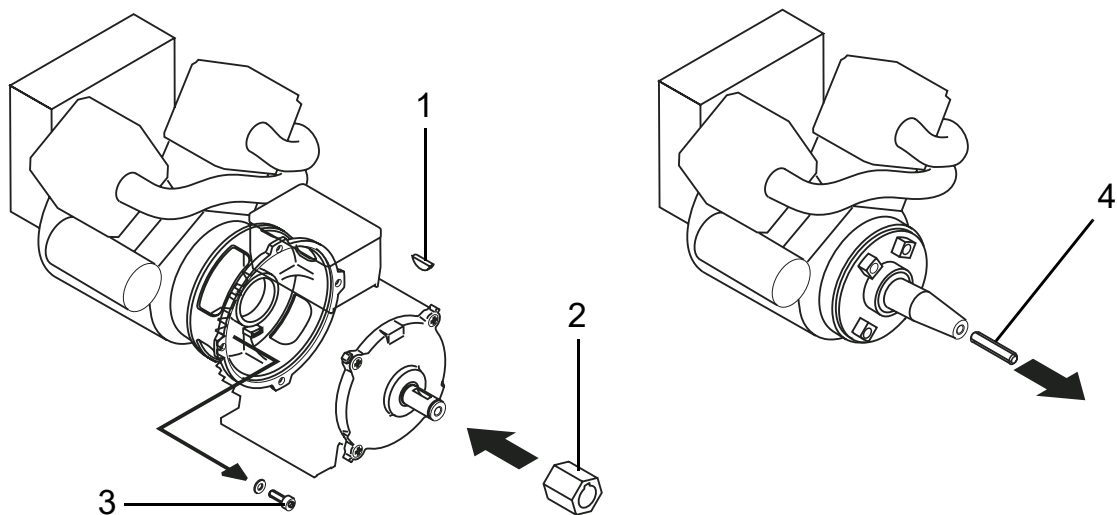

Fig. 32 Disassembly of single-bearing brush generators (1)
- ⇒ Fig. 32, Disassembly of single-bearing brush generators (1), page 105